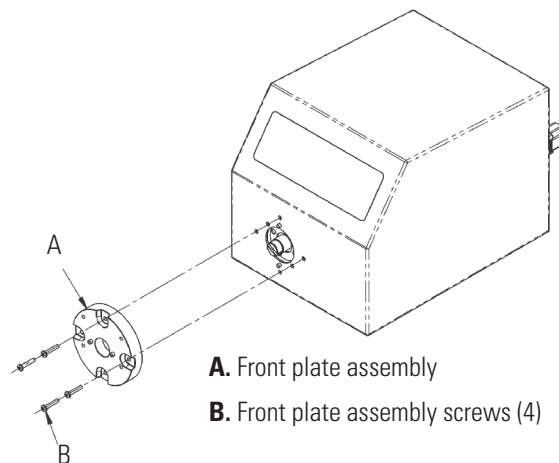

Figure 4-3. Shaft Seal Inspection
2. Remove the four (4) screws (see Figure 4-3, Item B) that hold the front plate assembly (see Figure 4-3, Item A) to the drive, and pull the front plate assembly off the drive. #8-32 screws may be installed in the pump-mounting holes to provide handles for pulling the plate assembly off. Retain Item B screws for Step 8. **DO NOT** substitute screws.
8. Slide the front plate assembly back over the shaft and onto the locating pins, in the orientation desired. (4 configurations, each 90 degrees of rotation apart, are possible.) Reinstall the four (4) screws, removed in step 2 (see Figure 4-3).